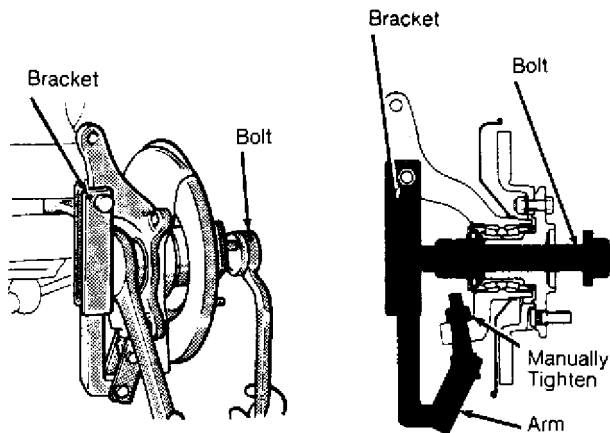

Fig. 8: Removing Hub From Steering Knuckle (Colt, Colt 200, Mirage & Summit)
3) Remove knuckle from strut assembly. Remove hub and knuckle assembly. Using Bracket (MB991056) and Bolt (MB990998), separate hub from steering knuckle. See Fig. 8. Remove rotor from hub.